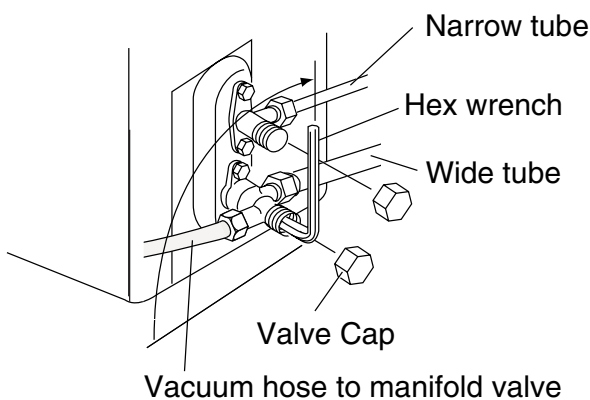

Fig. 41
4. When the low pressure gauge reading falls from 1 to 0.5 kg/cm², fully close the wide tube valve stem (Fig 41). Then quickly stop the unit.